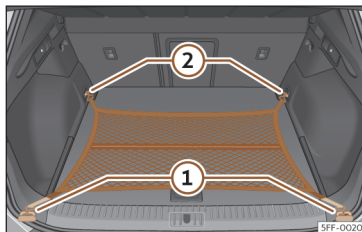

Fig. 120 In the luggage compartment: net bag hooked up at floor level.
- Secure the net hooks to the fastening rings ① and ② >>> Fig. 120 >>> . The bag zip should be facing upwards.